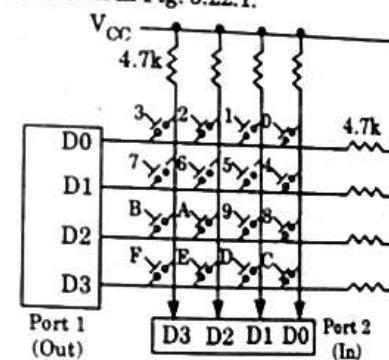

Fig. 5.22.1
- To understand the mechanism let us consider a 4 × 4 matrix connected to two ports as shown in Fig. 5.22.1.